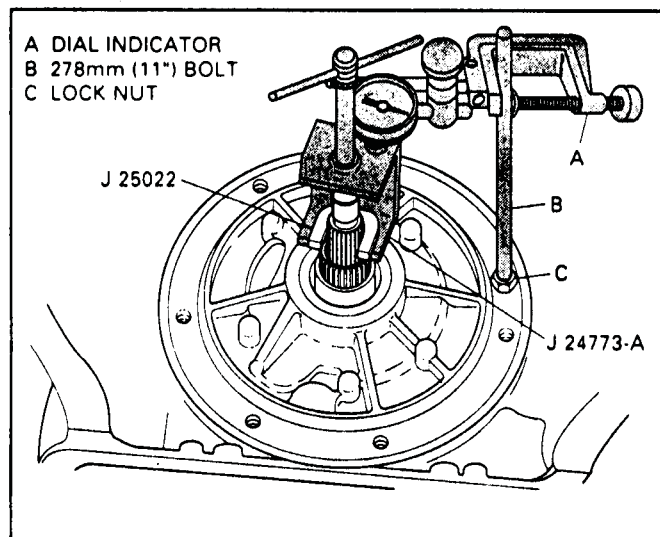
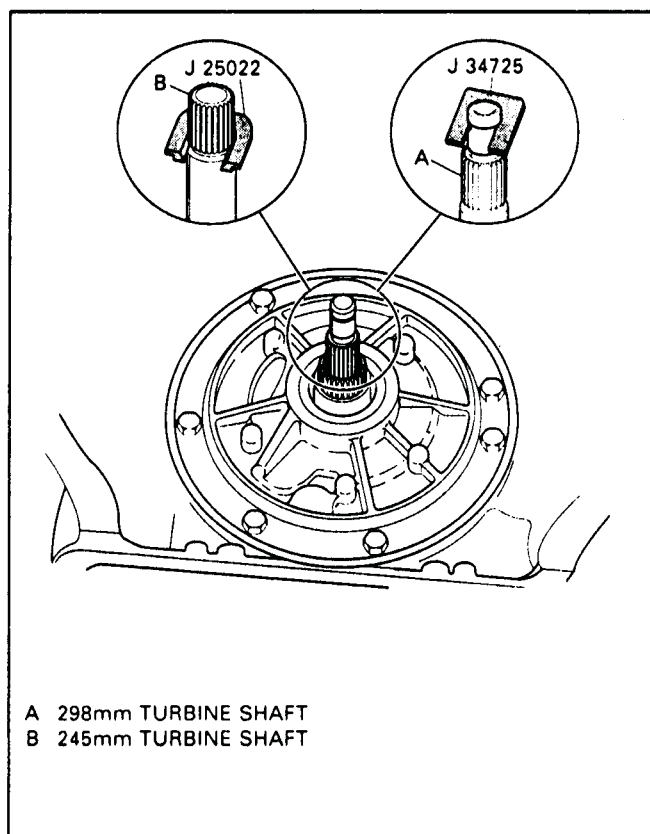

Figure 47
Figure 48
38. Rotate transmission to an upright (Pump Facing Up) as shown in Figure 47.
40. Install dial indicator using adapter as needed (Figure 48) and lifting tool J-24773-A as shown in Figure 47.